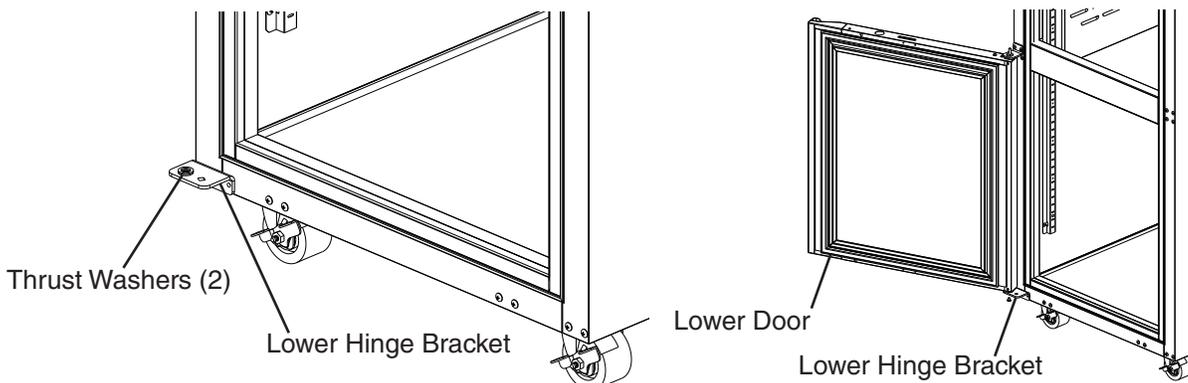

Fig. 33
- 12) Make sure the lower hinge bracket thrust washers (2) are in place, then with the lower door (rotated upper door) in the maximum open position, place the door onto the lower hinge bracket. See Fig. 33.